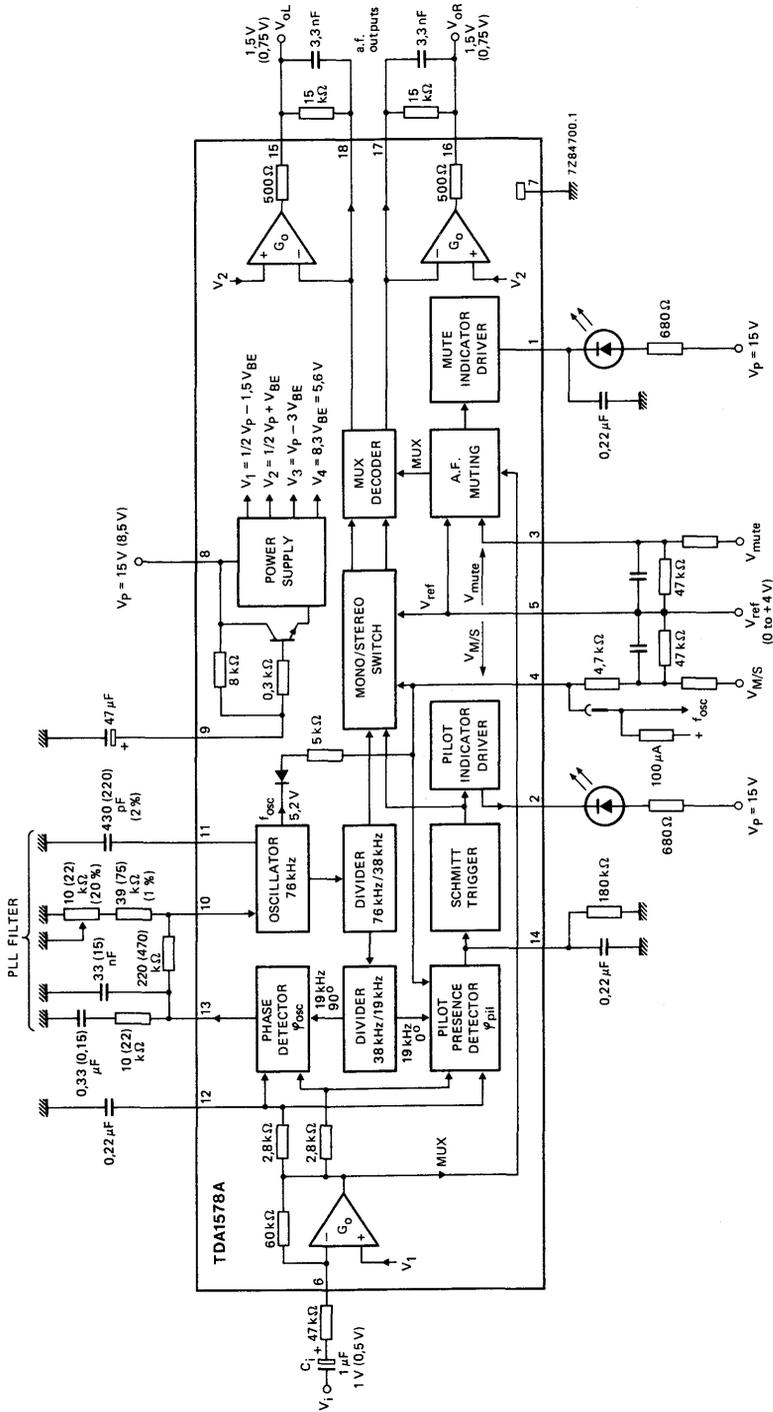

Fig. 1 Block diagram with external components; used as test circuit. Values given in parentheses are for Vp = 8.5 V.
**CHARACTERISTICS** (measured in Fig. 1)Input signal:  $m = 100\%$  ( $\Delta f = \pm 75$  kHz); pilot signal:  $m = 9\%$  ( $\Delta f = \pm 6,75$  kHz);modulation frequency: 1 kHz;  $V_{3.5} = V_{4.5} = 0$  V;de-emphasizing time:  $T = 50$   $\mu$ s; oscillator adjusted to  $f_{osc}$  at a pilot voltage  $V_i = 0$  V; $T_{amb} = 25$  °C; unless otherwise specified